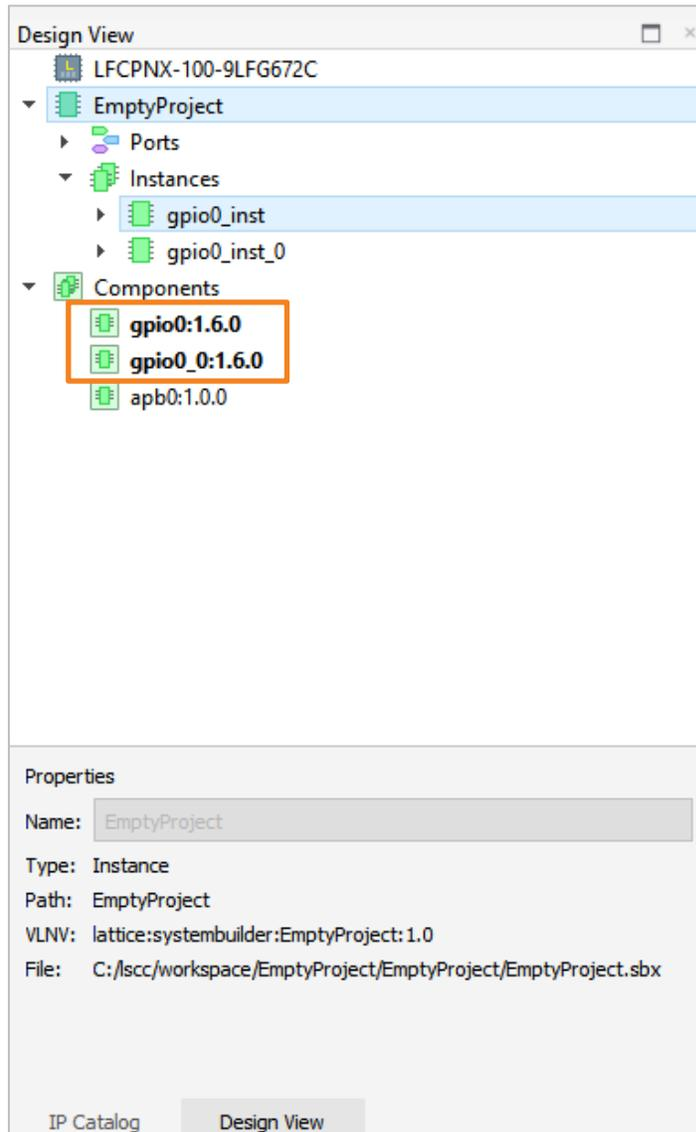

Figure 2.62. Design View
1. In the List view of the Design View (Figure 2.62), go to the Components folder. The deleted module can still be found in the List view in plain text. Those not deleted are shown in bold-faced text.